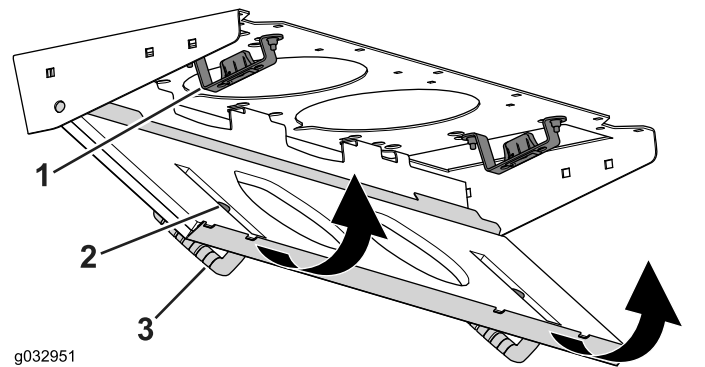

Figure 136
- 4. Rotate the filter screen around the tabs until the latch locks into the latch-mount assembly (Figure 136).